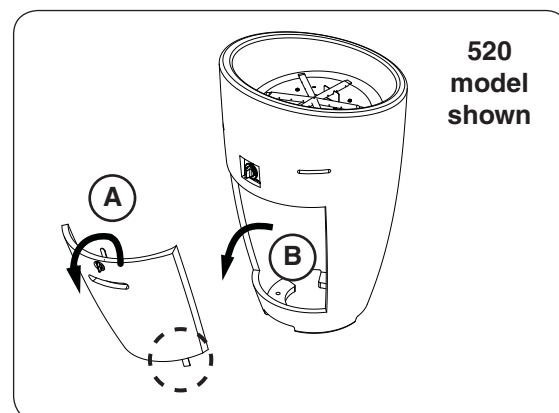

Fig. 15-2 Remove storage door (if applicable)
1. If equipped remove the storage door by first turning the door handle counter-clockwise, then carefully pulling the door outward (see Fig. 15-2). Store in a safe location.